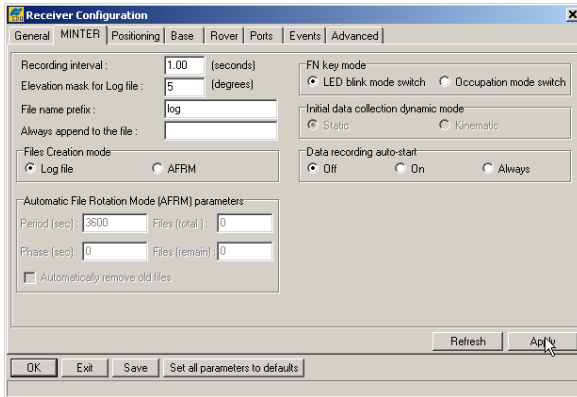

Figure 3-31. Receiver Configuration – MINTER Tab
5. Click **Configuration** ► **Receiver**, and then click the **MINTER** tab. Set the following parameters, and click **Apply** (Figure 3-31). See the following pages for descriptions of these parameters.